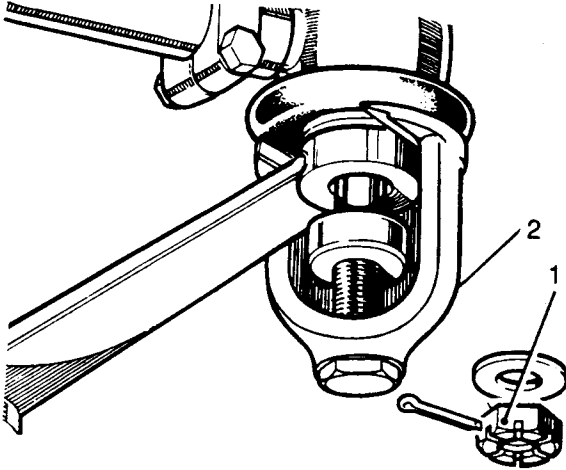

Fig L4.18
- (3) Refer to Fig L4.18. Remove the fixings (1) from both ball joints.
- (4) Extract the ball joint, using special tool 601763 (2).
- (5) Withdraw the track rod and ball joints.
- (1) Prop open the bonnet.
- (2) Remove the fixings (split pin, castellated nut and washer) from the ball joint connecting the longitudinal tube to the steering box drop arm.
- (3) Using special tool 601763 extract the ball joint from the steering box drop arm (see Fig L4.18 for use of special tool).
- (4) Remove the fixings from the ball joint connecting the longitudinal tube to the relay lever.
- (5) Using special tool 601763 (see Fig L4.18) extract the ball joint from the relay lever and withdraw the longitudinal steering tube from the vehicle.